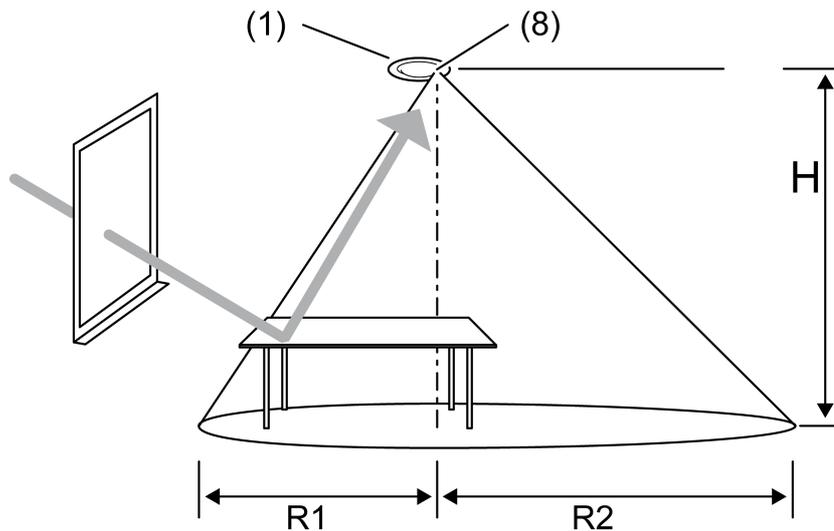

Figure 3
- When mounting, align the device so that the brightness sensor (8) is not facing the window(Figure 3).